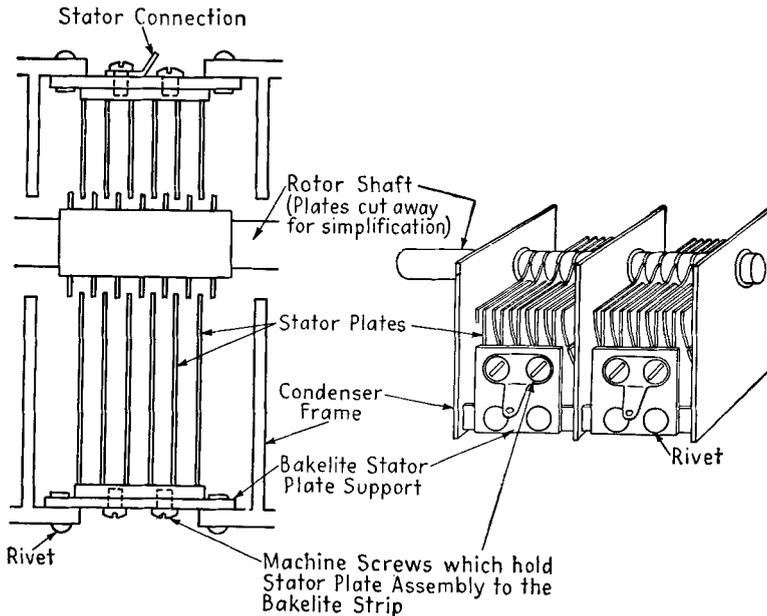
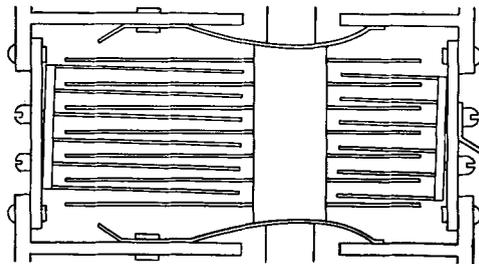

FIG. 14-18. Method of fastening stator plates in a variable condenser.
FIG. 14-19. Stator plates out of parallel alignment because of loosened holding screws.
2. *Tighten and align the stator plates.* Examine the insulators that hold the stator plates in position. Figure 14-18 shows a common method of supporting the stator plates. Most condensers have a similar arrangement. The machine screws that hold the assembly together may loosen, making for poor contact with the stator soldering lug and also allowing the stator plates to slip out of parallel alignment. Figure 14-19 represents a condenser where this has happened. To repair this condition, pry the stator plates back into parallel alignment with the rotor plates, making sure at the same time of equal spacing between the plates, and then tighten the screws. Even if the plates have not slipped out of position, the screws usually require retightening. In condensers where the spacing between plates is very small and parallel alignment and equal spacing cannot be judged by eye, spacing shims can be made by cutting stiff paper into strips. An ordinary business card is of about the right thickness. The shims are inserted between the plates on both sides of the rotor shaft, the screws are tightened, and the shims removed.